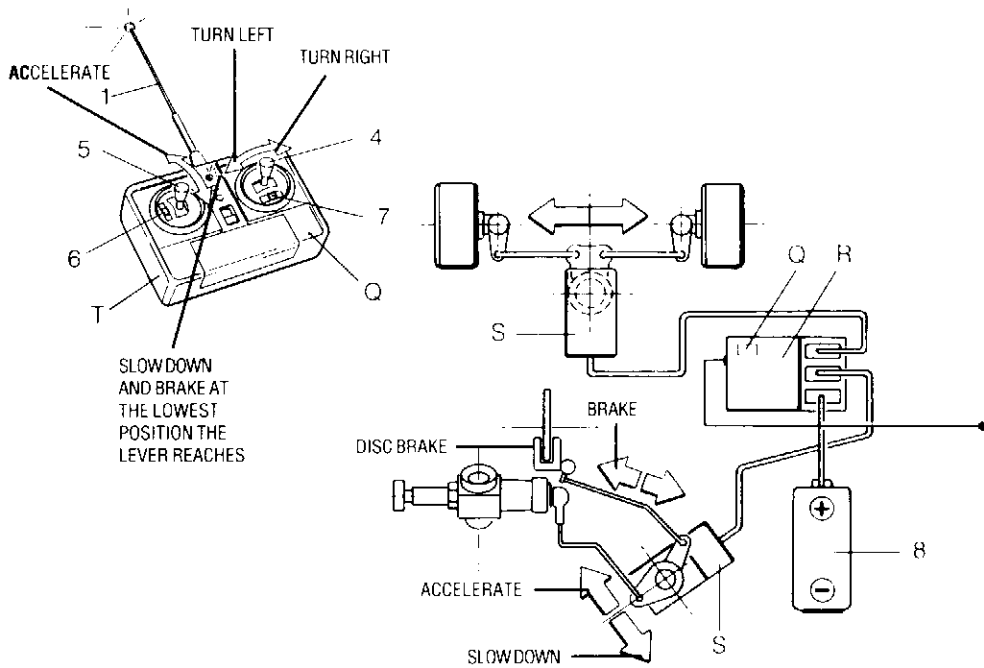

Fig. 19
□ Radio Control unit (Fig. 19)